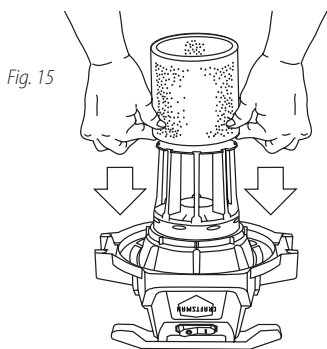

Fig. 15
32. With tank cover in an upside down position, slide foam sleeve 16 down over lid cage pulling until foam sleeve 16 completely covers lid cage. Fig. 15.